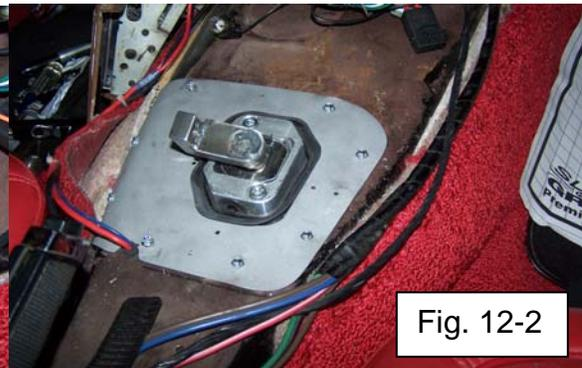

Fig. 12-2
- c. Install shift tower to body seal with open flange up. Press body seal down into gap between shift tower and patch panel opening. See Fig. 12-2.